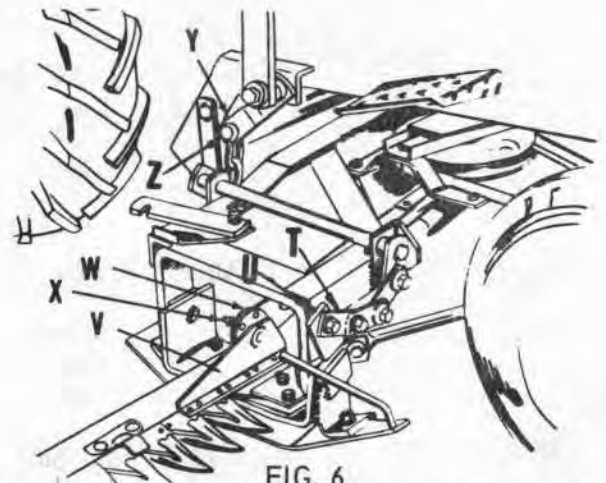

FIG. 6
7. Refer to Fig's. 5 and 6. Remove nut, lockwasher, bushing, flat washer and bolt from lift link (T). Assemble lift link (T) to cutter bar lift arm (U) with items previously removed.
8. Remove huglock nut and outer washer from pin welded to knife head (V). Leave inner washer on pin. Position end of pitman assembly (W), over pin -- it will be necessary to have knife assembly in extreme R.H. position. Now slide outer washer, previously removed, over pin and secure with huglock nut. Assemble the grease fitting (X), shipped in bag of parts, into position shown.
9. Remove cotter pin (Y) from rivet (Z) and remove rivet. Attach clevis to foot lift lever as shown in Fig. 6 with rivet and secure with cotter pin.